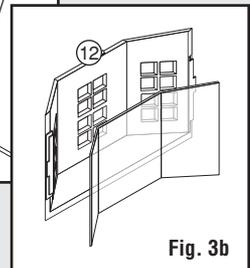

Fig. 3b
- Use scored Window Material for Bay Window ⑫ (**Fig. 3b**).